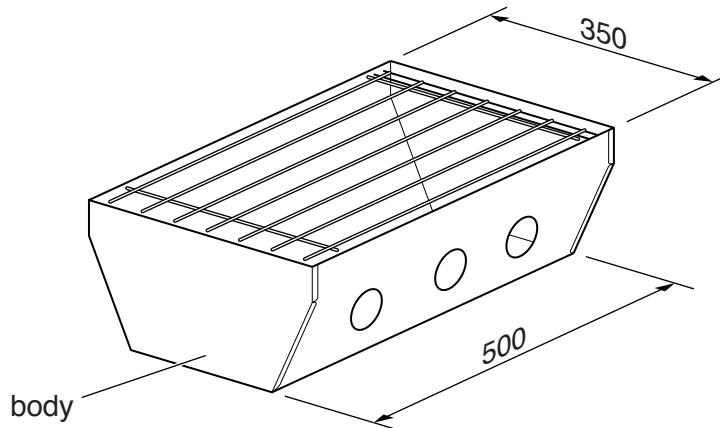

Fig. 8
- 12 Fig. 8 shows an incomplete design for a freestanding barbecue. The barbecue body is made from 1 mm thick mild steel sheet.